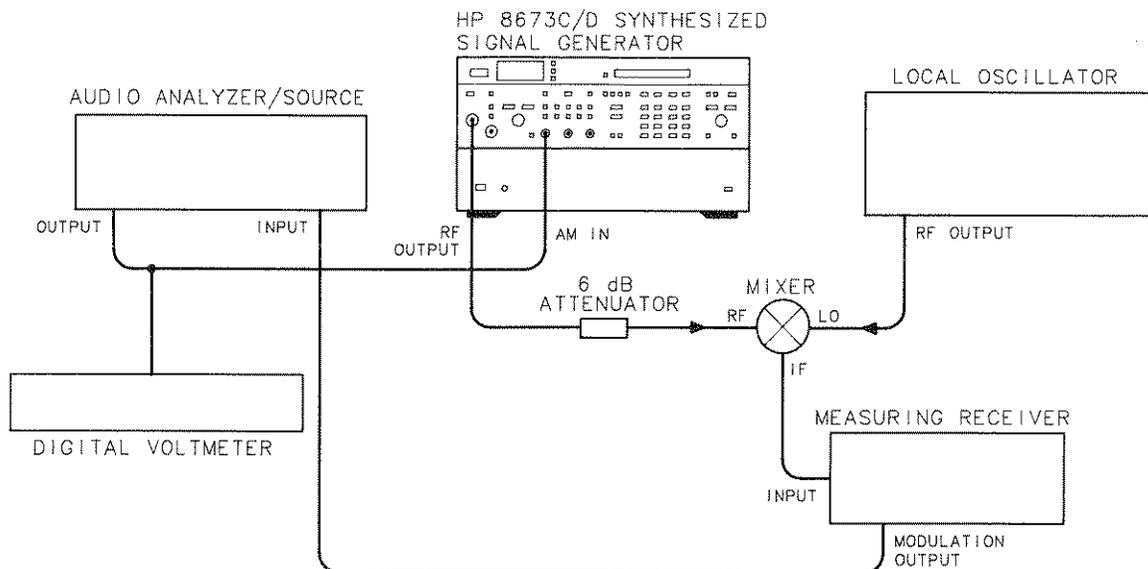

Figure 4-8. AM Accuracy Test Setup
1. Connect equipment as shown in Figure 4-8.